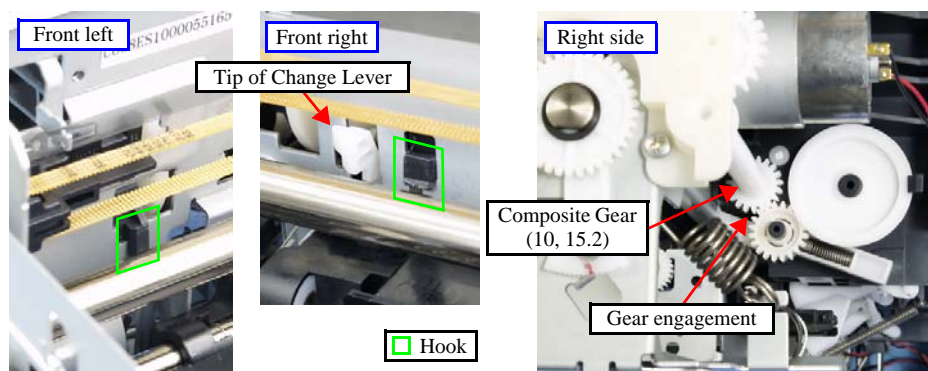

Figure 4-73. Removing the ASF Unit (3)
- When installing the ASF Unit, make sure that the composite gear, the chip of Change Lever and the hooks (x2) are engaged properly. (See Figure 4-73.)